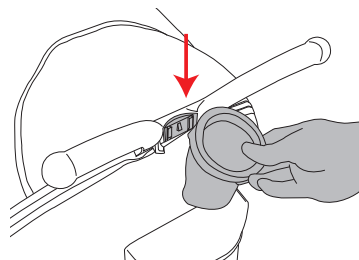

Figure 25
- Slide the grooves on the back of the cup holder onto the fittings between the handles until the cup holder snaps into place. See Figure 25.